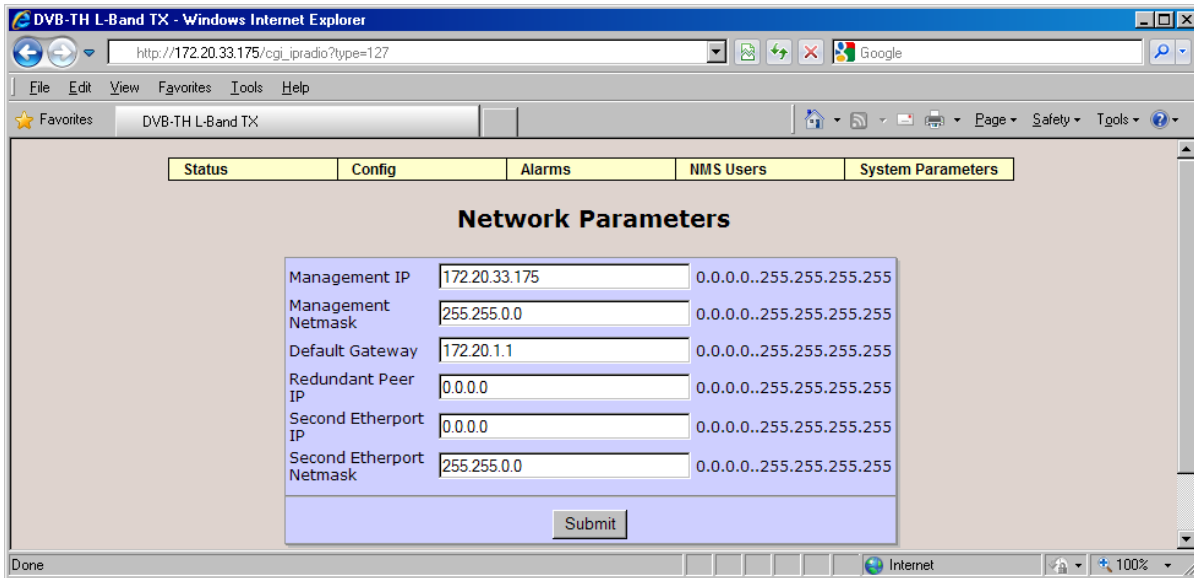

Figure 5-1 Network Parameters
5. Once logged in, navigate to System Parameters -> Network Parameters and re-configure the modulator's network parameters as desired – see Figure 5-1. **Note:** The Management port refers to Ethernet connector A, while the Second Etherport refers to Ethernet connector B.